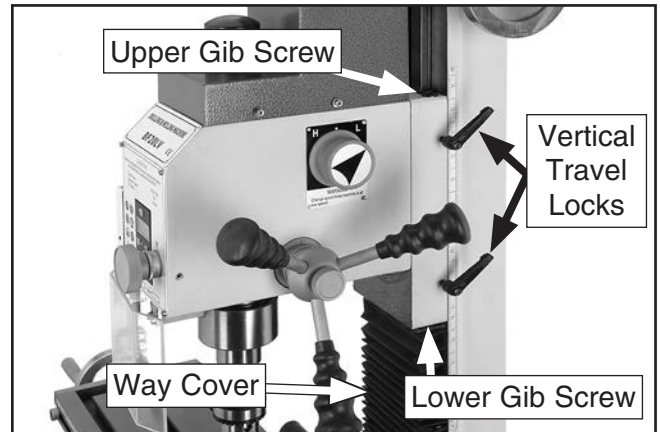

Figure 55. Headstock gib adjustment.
2. Remove the two screws that secure the top end of the way cover, pull it down to expose the lower gib screw, then loosen the vertical travel locks (**Figure 55**).
3. Loosen or tighten the upper and lower gib screws (**Figure 55**) in an alternating manner to adjust the headstock gib.